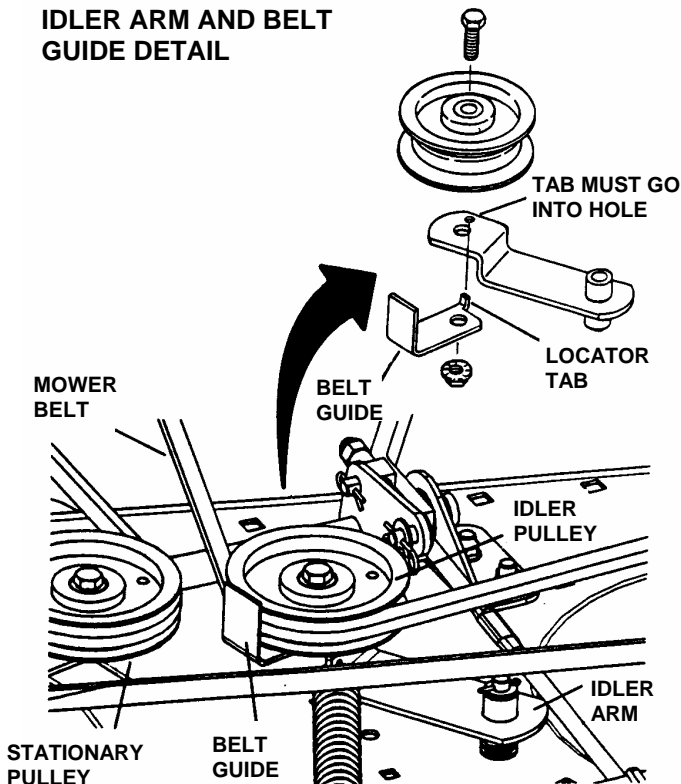

FIGURE 4.4
5. Reinstall idler pulley spring. See Figure 4.4. NOTE: The idler belt guide should be positioned so the locator tab fits into the corresponding hole found on the idler arm. See Figure 4.4. Tighten bolt securely.